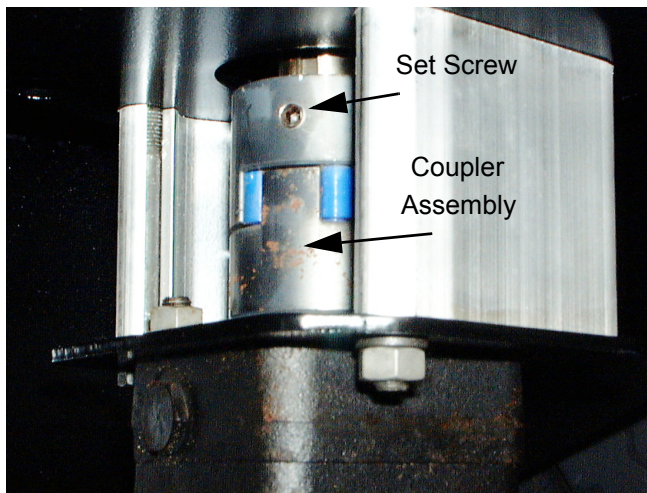

Figure 3
3. Inspect the coupler assembly between the engine and the pump in the following sequence: See Figure 3.